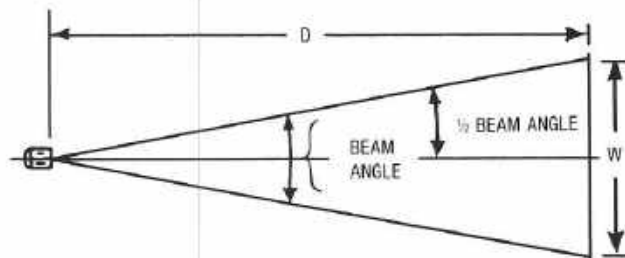

Figure 10. Definition of terms for calculating coverage.
Calculating Coverage from Beam Angle: The following expression allows the computation of the coverage diameter (W) for any distance (D) and a given beam angle (Refer to Figure 10). The expression is: